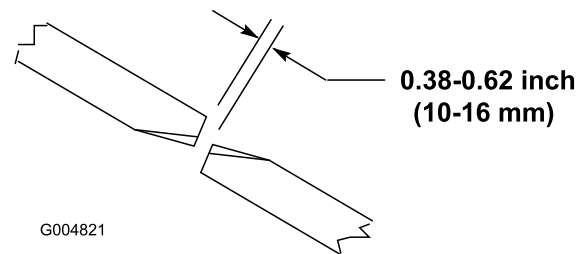

Figure 28
To ensure proper operation of the cutting unit, there must be 10-16 mm (0.38-0.62 inch) clearance between the tips of the wing and center cutting unit blades (Figure 28).
2. Rotate a center and adjoining wing blade so there blade tips are aligned. Measure distance between blade tips, distance should be approximately 10-16 mm (0.38-0.62 inch) (Figure 28).